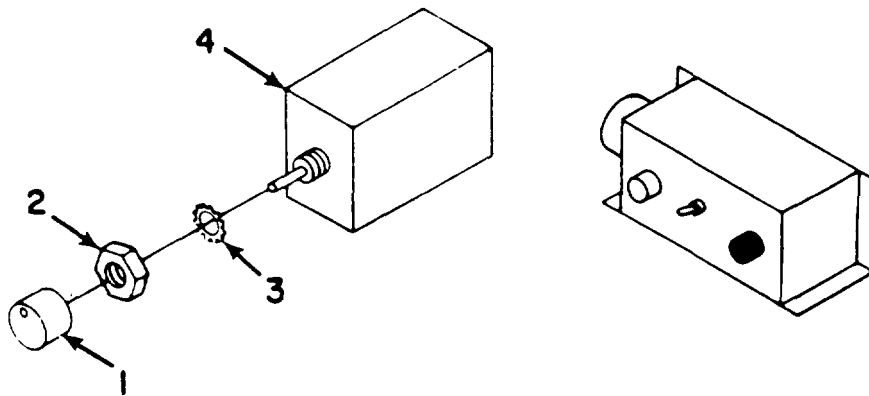
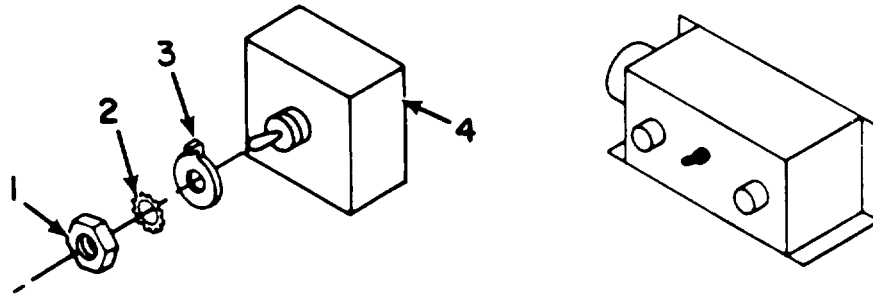

Figure 4-16. Mode Selector Switch(s).
Figure 4-18. Fan Switch (S7).
2. Remove electrical connector (1) from control panel (7).
3. Loosen clamp loop securing sensing bulb (6) to well inlet.
4. Remove four bolts and flat washers and control panel (7). Carefully pull sensing bulb (6) through clamp loop.
5. Remove panel (4) from control panel (7) by removing knob from temperature control switch (10) and removing four screws (2) and nuts (5)-
6. Remove knob from **INCREASE/DECREASE** switch (S1) (10).
8. Remove nut (Figure 4-16, item 2), lockwasher (3), and switch (S).
12. Remove nut (Figure 4-18, item 1), lockwasher (2) and locking ring (3) and remove switch (S7) (4).
4. Install switch (S) (Fig 4-16, item 4) with lockwasher (3) to control panel and secure with nut (2) furnished with switch.
5. Replace knob (1) on switch (S) (4).
6. Install switch (S7) (Fig 4-18, item 4) to control panel and secure with nut (1), lockwasher (2), and locking ring (3).